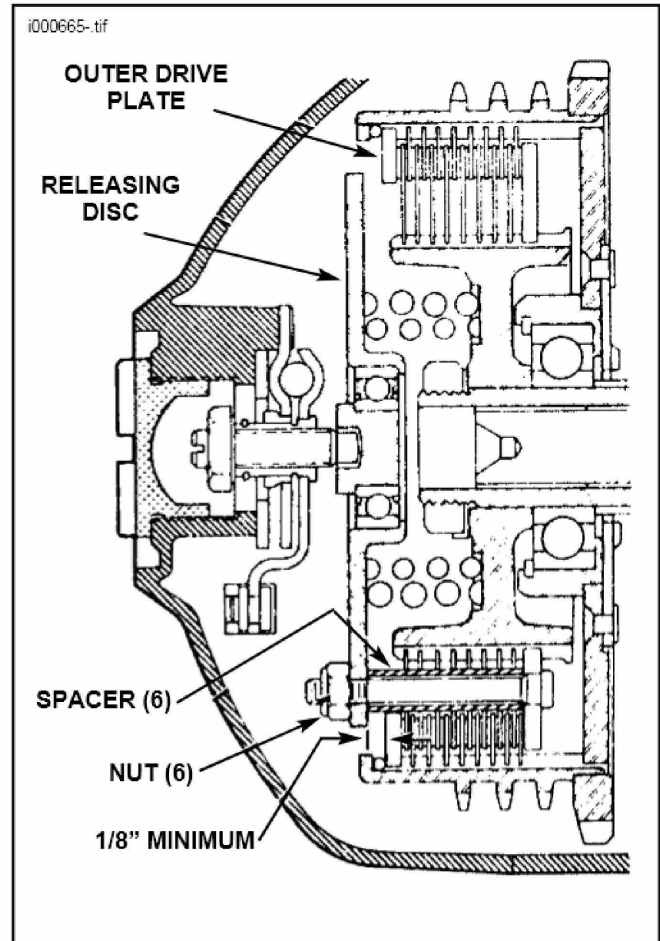

Figure 4-6B
7. Also check to see that between 5/32 and 7/32 distance is obtained between inner surface of releasing disc and inside surface of outer drive plate. Under no circumstances should this distance between plates be less than 1/8 inch as shown in Figure 4-6B of Service Manual.